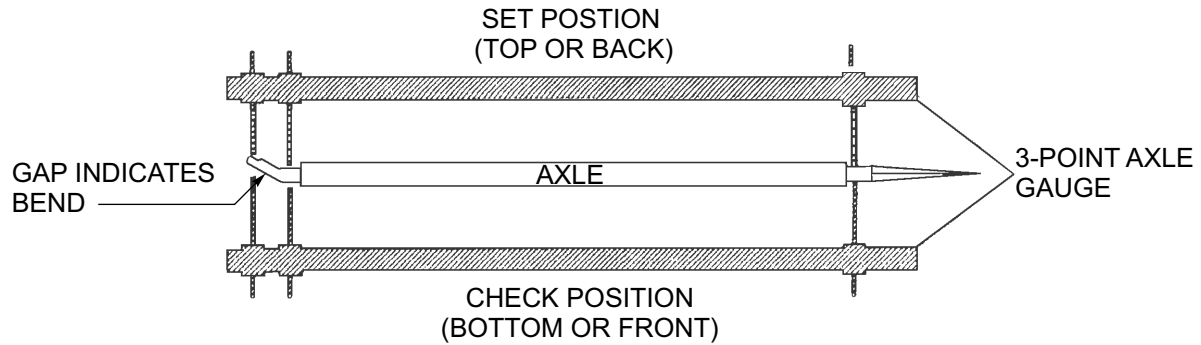

Figure 4-6: Checking Axle for Bend
2. Place a 3-point axle gauge against the front side of the axle, and adjust each axle gauge point to the axle. (Double point end against the inner and outer wheel bearing surfaces of the spindle being checked and the other point on the inner bearing surface on the other spindle **(See Figure 4-6.)**)
3. Move the axle gauge and place against the back side of the axle. If either of the points of double point end fails to touch the axle surface, a bent spindle is evident. A point gap of .015" or more is considered excessive tire “toe” and the axle must be replaced **(See Figure 4-6.)**
5. Measure (D1) to the other end of the axle in the same manner as in **step 4**. Record this measurement (**See Figure 4-6.**)